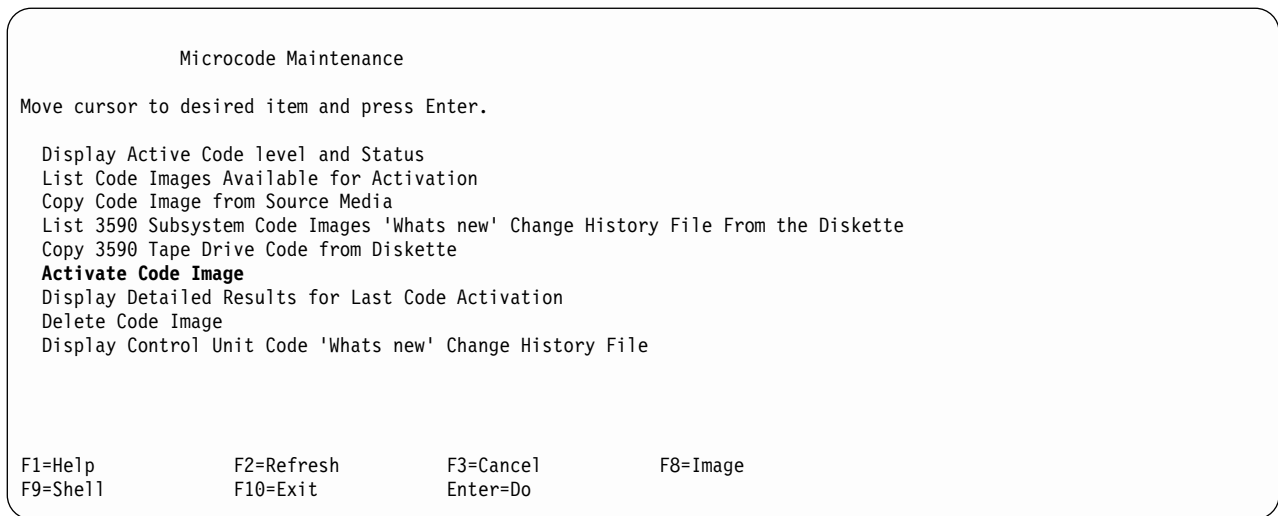

Figure 11-33. Microcode Maintenance
2. Select **Activate Code Image** shown on Figure 11-33 on page 11-62,